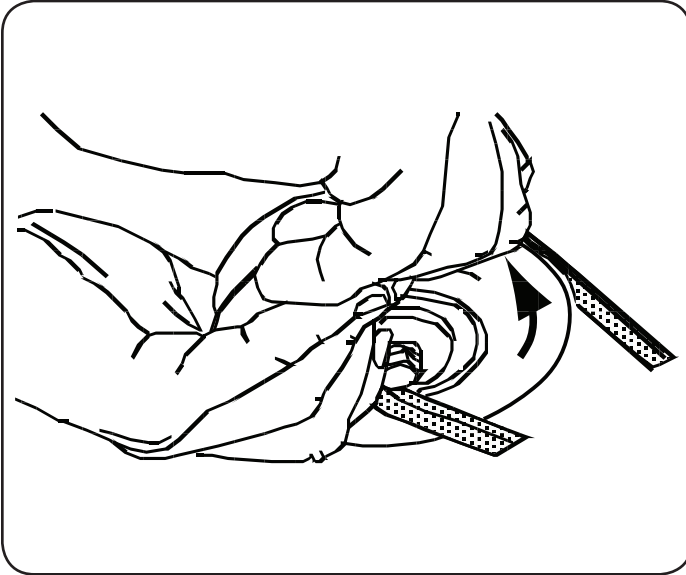

Figure 29
8. Pull the right side of the belt and place the narrow V side of the belt into the PTO pulley. See Figure 29.